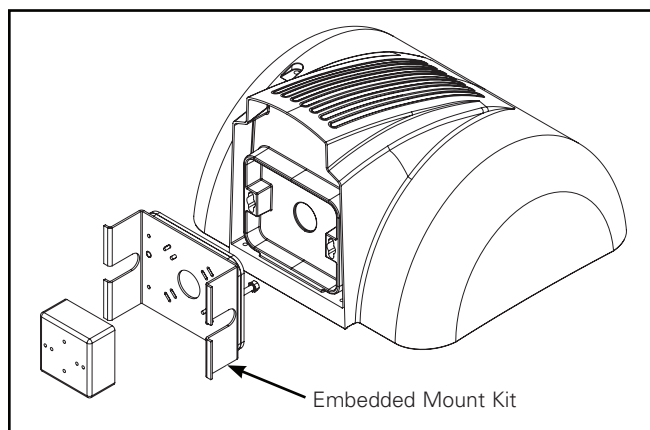

Figure 2. Embedded Mount VWM/EM
2. Embedded Mount—mounts to a plate embedded into the wall (Optional accessory VWM/EM) (Figure 2).